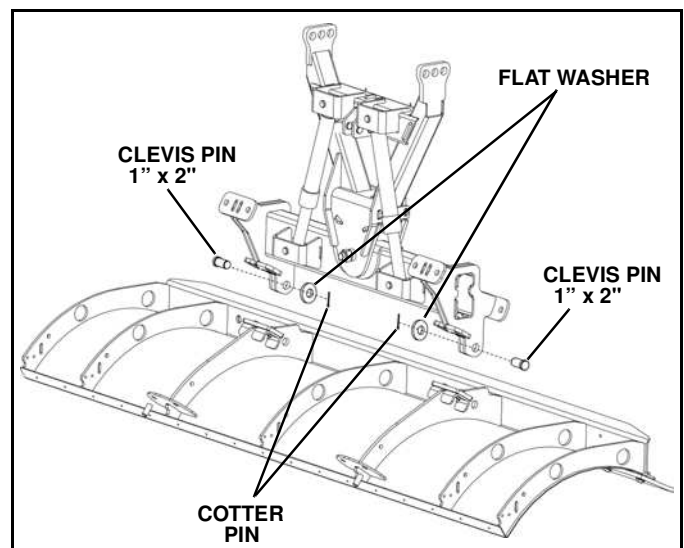

Figure 1-5
5. Remove A-Frame and swing frame assembly from box. Place A-Frame and swing frame assembly on blade and insert 1" x 2" clevis pin from blade parts bag. The ribs on either side of the center rib should be between the swing frame lugs. (See Figure 1-5).